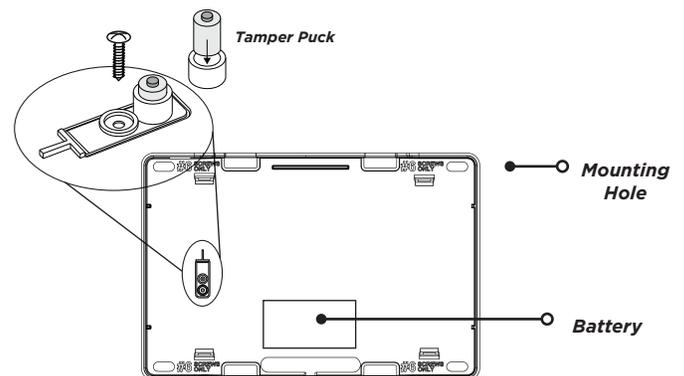

Figure 2: Inside of the 1100XINT Housing
2. Mount the receiver on a flat surface using the supplied screws. See Figure 2 for mounting hole locations.